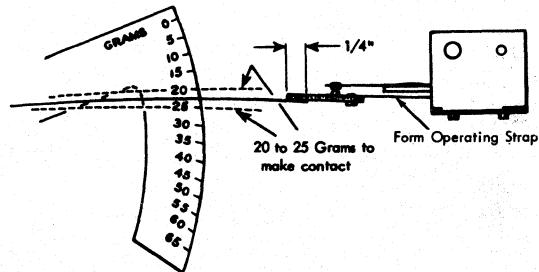
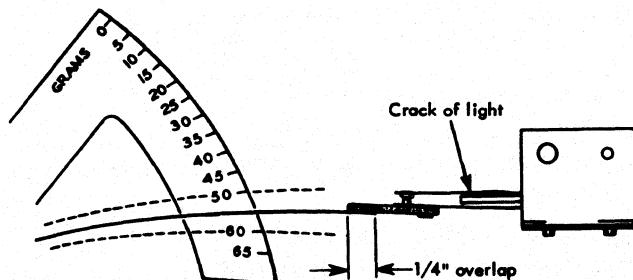

Figure 34. Interposer Bail Contact Adjustment
Figure 35. Interposer Bail Contact Adjustment
2. With contact assemblies removed, form operating strap near the mounting to require 20 grams to 25 grams to close contacts (Figure 34). Place gram gage finger under phenolic pad with $\frac{1}{4}$ -inch overlap when checking adjustment; 50 grams to 60 grams should then be required to close contact and to raise stationary contact off support strap (Figure 35).